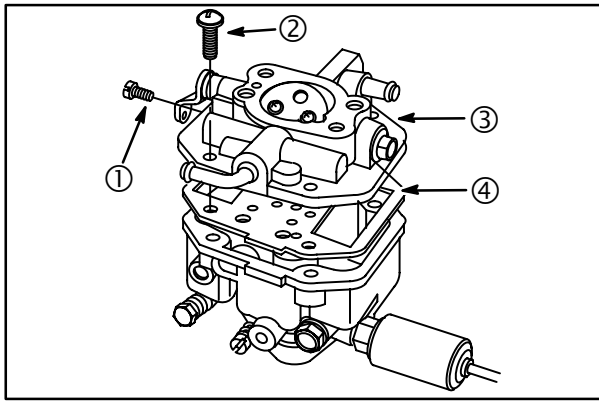

Fig. 98
1. Remove pilot jet (1), **Fig. 98**.
2. Remove four screws (2) and upper body (3). Discard gasket (4).